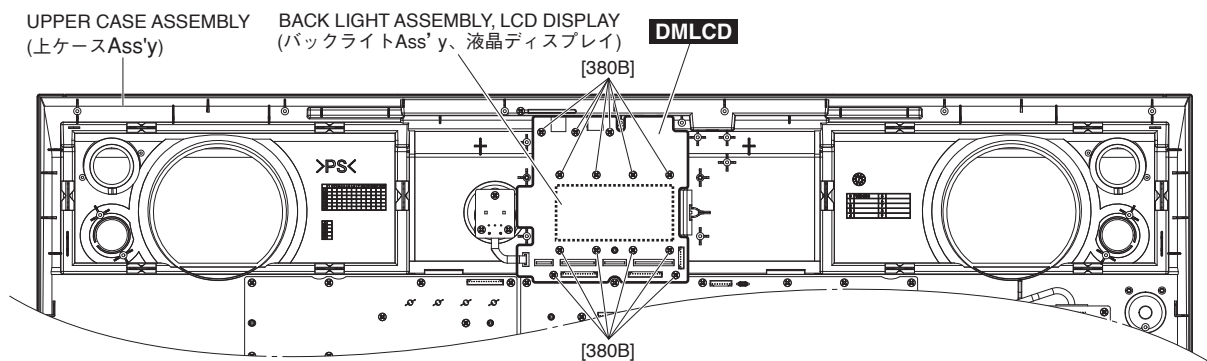

Fig. 3 (図3)
- 3-3 Remove the thirty (13) screws marked [380B]. The DMLCD circuit board can then be removed. (Fig. 3)
- 3-3 [380B] のネジ 13 本を外して、DMLCD シートを外します。(図 3)